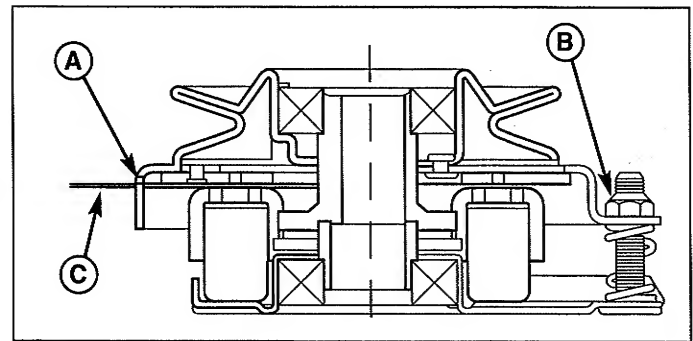

Figure 48. Adjust PTO Clutch
3. Insert a .012"-.015" (2.5-4mm) feeler gauge (C) through each window, positioning the gauge between the rotor face and the armature face as shown in Figure 48.